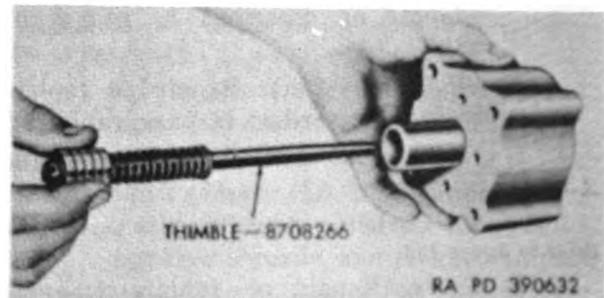

Figure 128. Installing fuel injector oil booster pump shaft.
- (5) Position thimble 8708266 (fig. 128) over threaded portion of shaft and